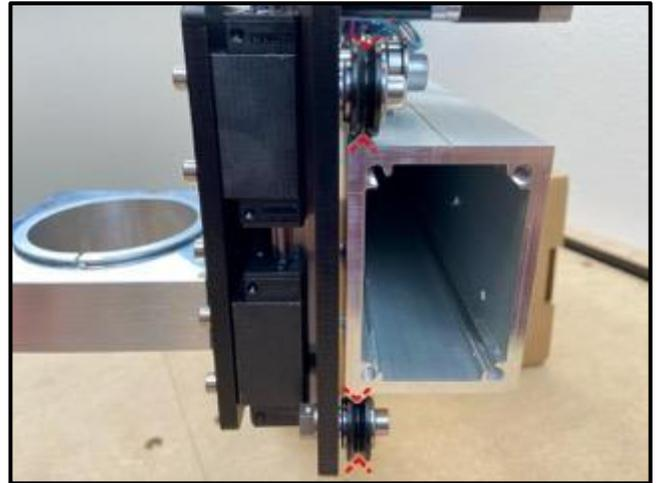

Figure 3-19
1. With the router mount facing front, line the four V-wheels up with the two v-rails, and slide the Z-Plus onto the open end of the X-rail. See **Figure 3-19**.